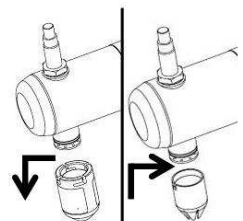

fig. 10
- Replace cleaning nozzle with garnishing nozzle (fig. 10)